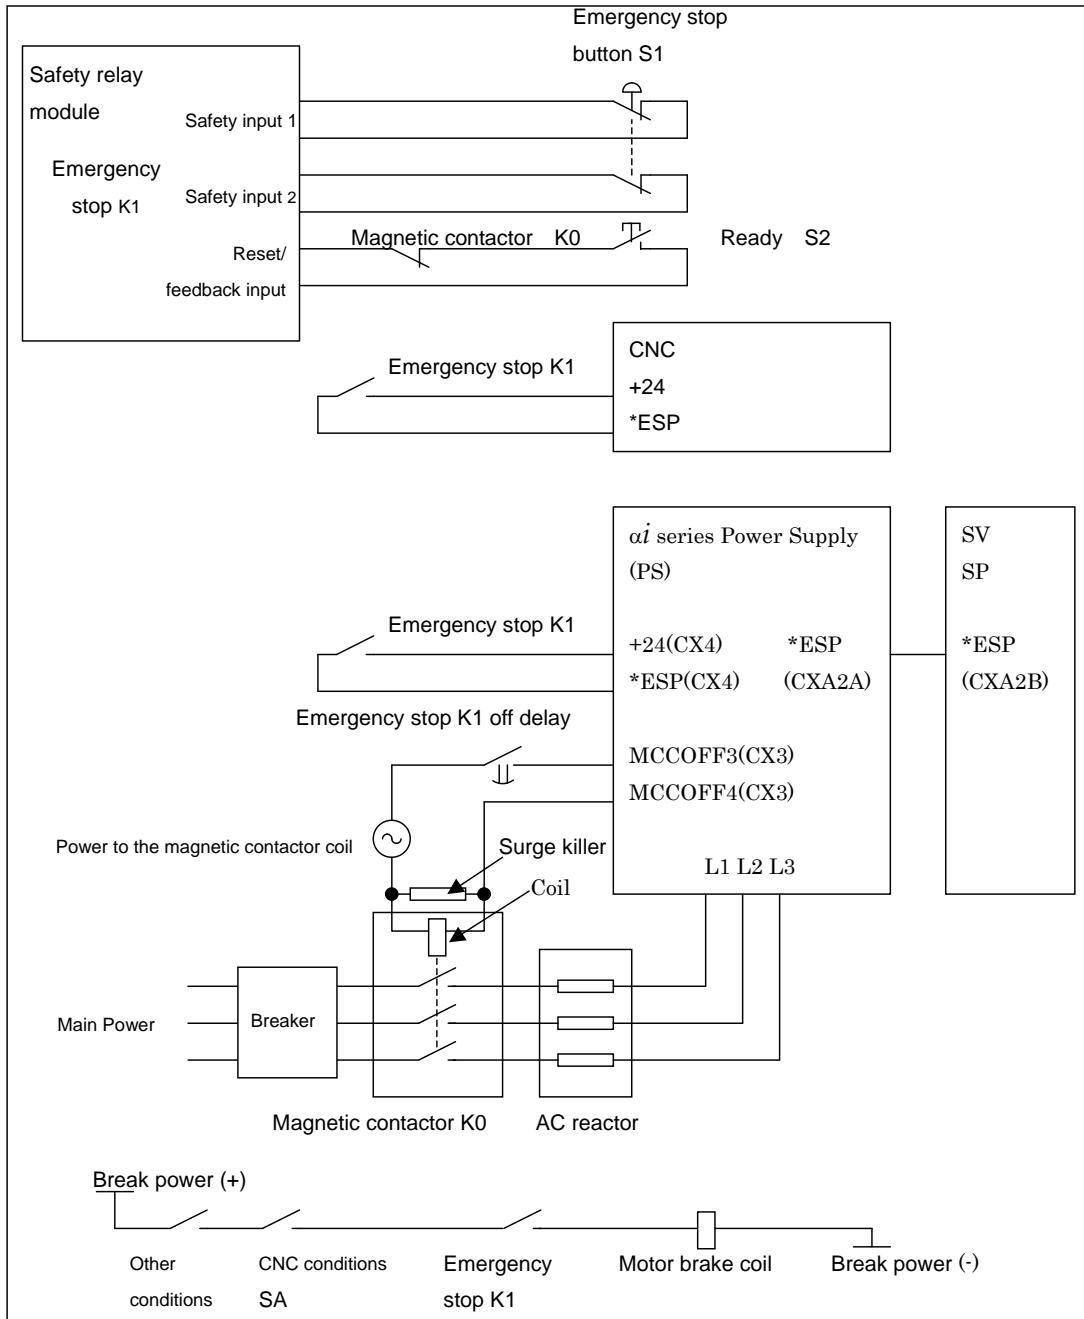

Fig. 9.5(a) Example of connections with an α i series servo amplifier
When the emergency stop signal (*ESP) contact opens, the CNC controller enters the emergency stop state, and the servo and spindle motors stop. In case of Fig. 9.5(a) or 9.5(b), the spindle motor power is shut off after the spindle motor is decelerated to a stop (Category 1 stop). Meanwhile, the servo motor is forced to be a dynamic stop as a rule (Category 0 stop). By setting relevant parameter, however, it is also possible to decelerate the servo motor to a stop, and then to shut off the servo motor power (Category 1 stop).
The example of the emergency stop signal circuit showed in Fig. 9.5(a) or Fig. 9.5(b) complies with the requirements of the safety standard ISO13849-1, Performance Level(PL) c or d. However, when calculating PL value concretely, the calculation should be based on the safety standard ISO13849-1 with the reliability data provided by each parts supplier. In case for the reliability data of CNC, please contact FANUC sales office.